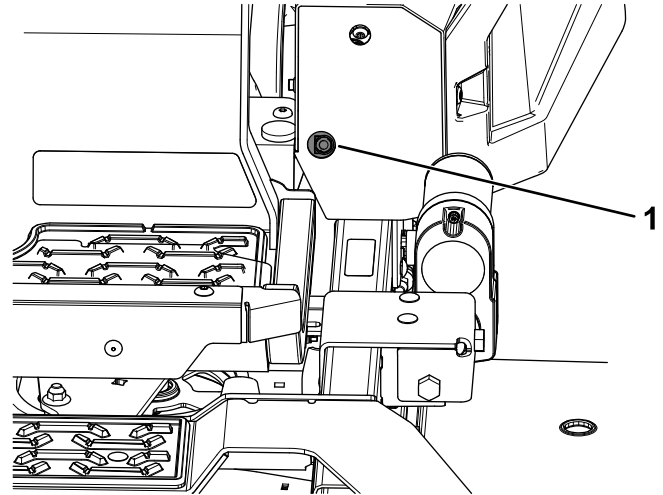
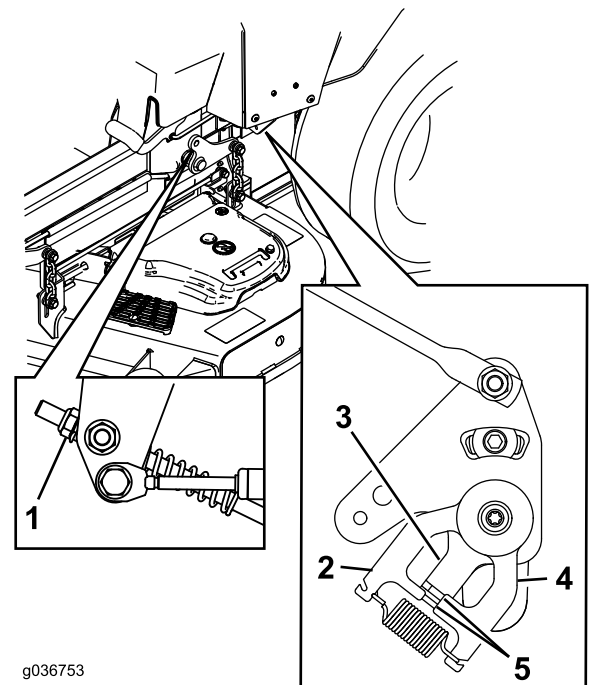

Figure 65
Figure 66
11. Adjust the pump-control-rod lengths by rotating the nut in the appropriate direction until the wheels slightly creep in reverse (Figure 65 and Figure 66).